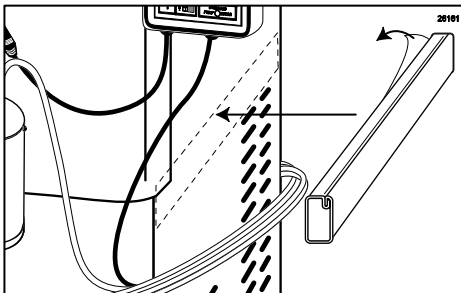

Figure 140
4. Remove the protective adhesive tape from the Casing and mount the Casing to the desired area on the freezer. (See Figure 140.)